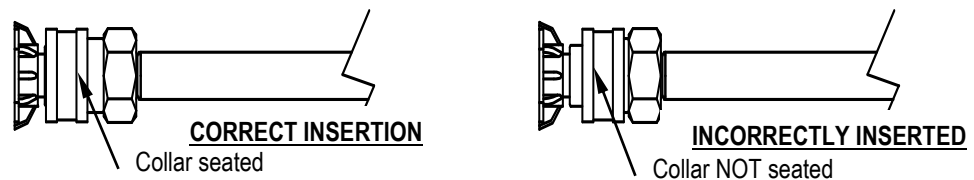

Figure 3b
- 3) Release the collar, making sure it springs back and re-seats to its original (non-retracted) position (Figure 3b). Check the connection by pulling on the nozzle to ensure a tight connection -- if correctly inserted, nozzle will rotate but not pull out.